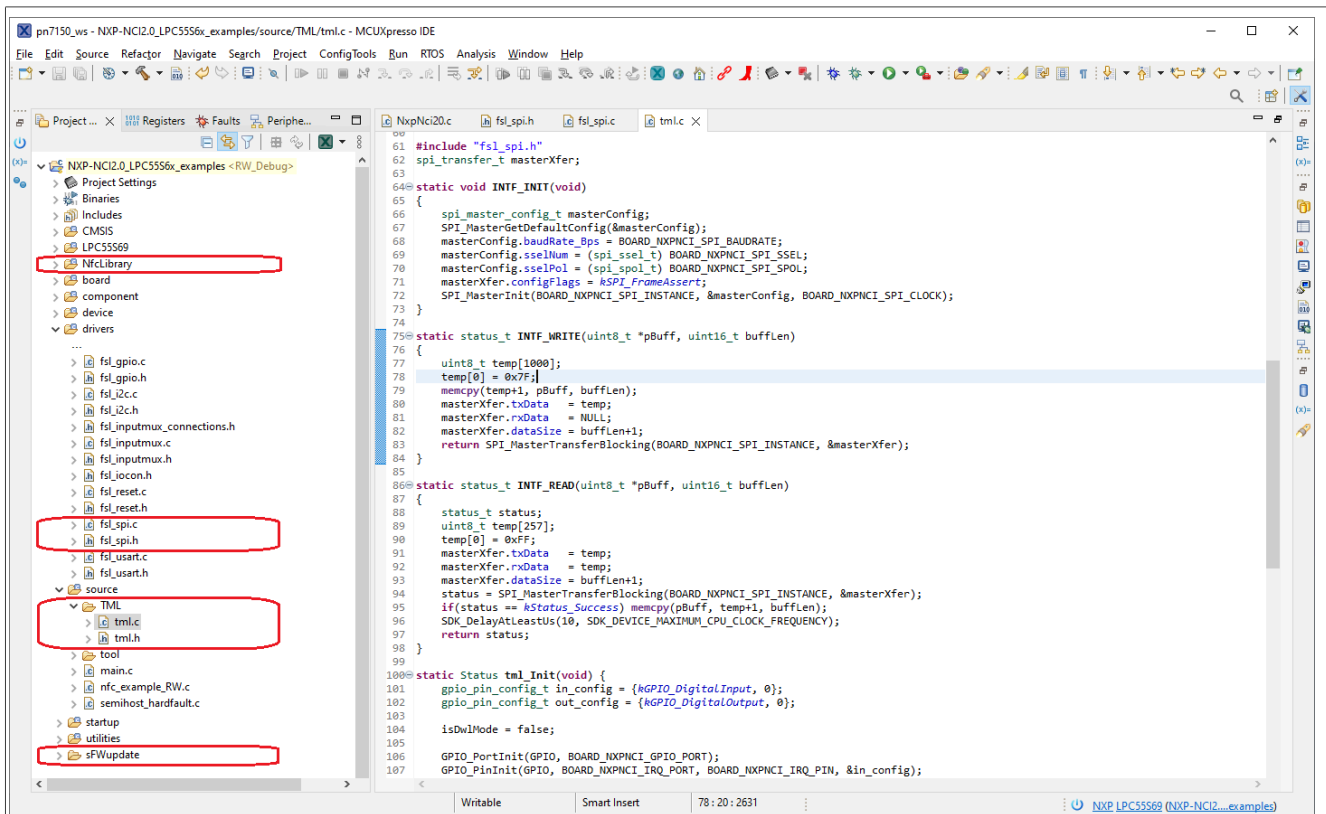

Figure 6. PN7160 SW - New features support
In addition to the steps described previously, which ensure that a legacy PN7150 NFC Controller MCU BareMetal software project can be executed on a PN7160 NFC Controller, it is highly recommended to integrate the new features supported by PN7160 NFC Controller that are available in SW6705 - PN7160 NXP-NCI MCUXpresso Example Project. These features include, among others, the SPI host interface support, which can be found in drivers folder and TML implementation files; the firmware download support, which can be found in a dedicated folder; and the integration of the new for low-power mode supported at NCI level (see Figure 6). PN7160 card emulation document provides full details and software examples on how to properly set Card Emulation (CE) for specific CE scenario in an MCUXpresso project.